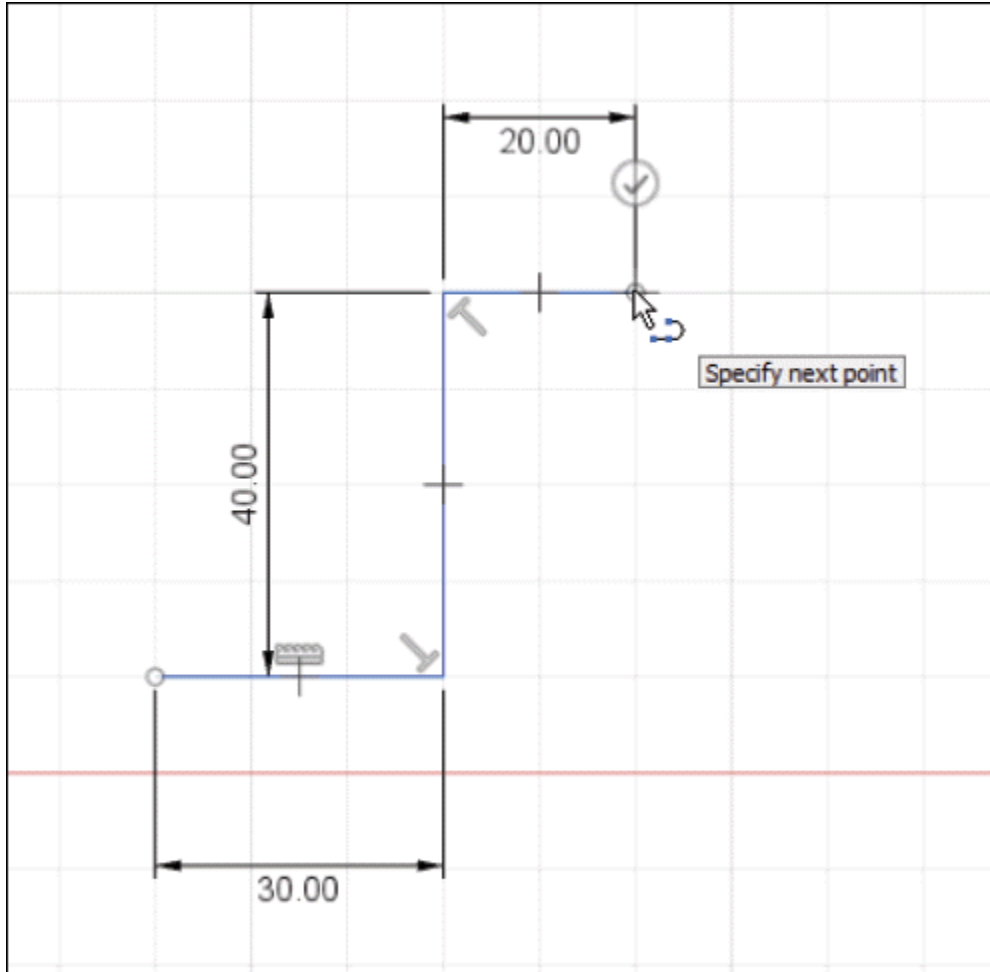

Figure-109. Sketch after specifying 20 value
- Move the cursor towards right and type the value **20** in the dimension box. Lock the dimension as discussed earlier and click on screen; refer to Figure-109.